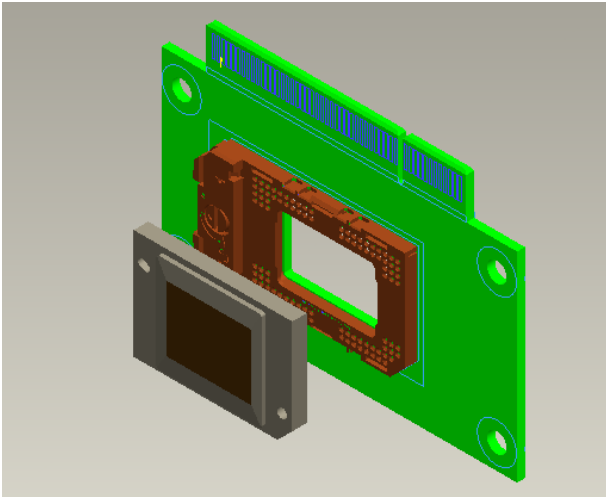

Fig. 4-3
- 4.2. Align keying and Assemble DMD to Chip B/D (Fig. 4-3).